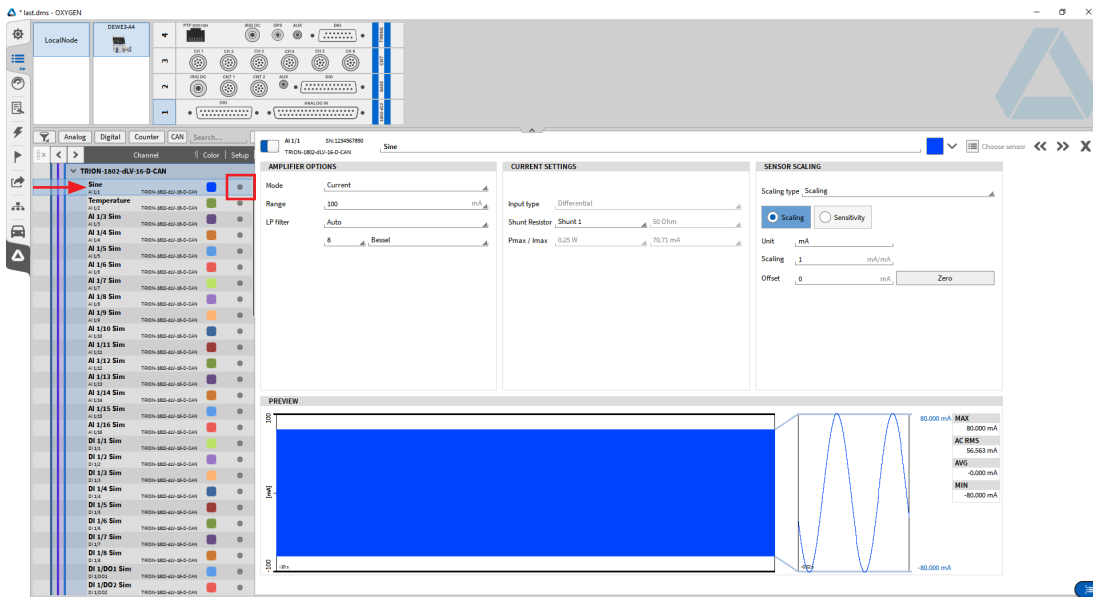

Fig. 23: Changing channel settings
2. Alternatively, the channel settings will also open by clicking on the gear button (see *Fig. 23*).